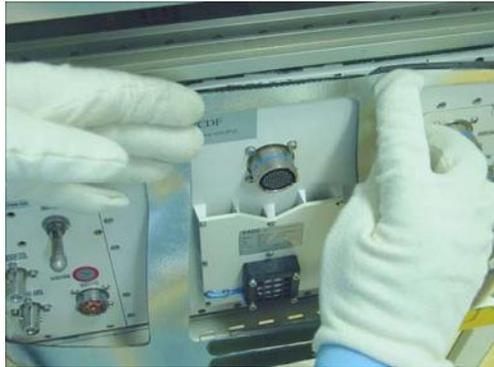

Figure 2. Closing Nomex Wings and Velcro
- 2.4 Fold Nomex wings (two) and close the Velcro per Figure 2.